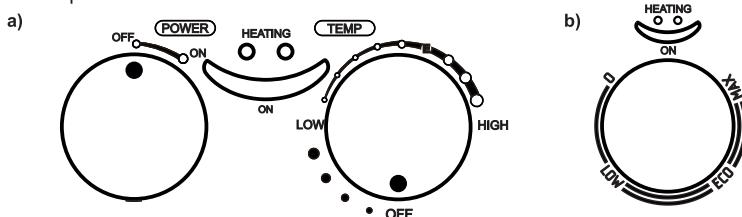

Fig. 3 Control panel knobs of the water heater: a) «WH» models, b) «TT WH» models
- 7.1.5. To turn on the water heater in models equipped with a switch (Fig. 3, a) it is necessary to turn the "POWER" knob to the "ON" position. In models equipped with only the adjustment knob (Fig. 3, b) when the plug is connected to the socket, the indicator "ON" lamp in the central part of the control panel.
- 7.2.1. In models equipped with external control (Fig. 3), water temperature can be controlled by a handle connected to the thermostat in accordance with marks.
- 7.2.2. The temperature is set by using the regulation knob (Fig. 3, a) "TEMP" clockwise to increase the temperature of heating and counterclockwise to decrease it.
- 7.2.3. The indicator lamp (Fig. 3, "HEATING") is constantly lighting during heating phase and turns off after reaching the set temperature.
- 7.2.4. It is recommended to install the controller in a position "Fig. 3, a) E and Fig. 3, b) ECO" corresponding approximately to 75% of the maximal value. In this case, the appliance is operated in economy mode significantly reducing the rate of scale formation.